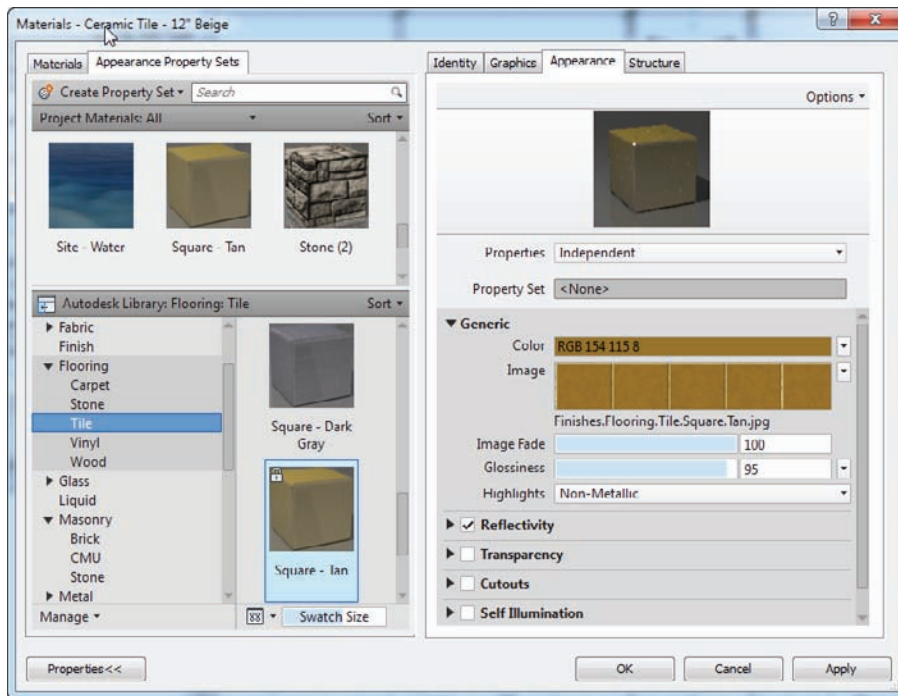

FIGURE 9.72 Mapping out the rendering and the shading appearance
9. Under Flooring, go to Tile and then select Square - Tan, as shown in Figure 9.72. Click OK.